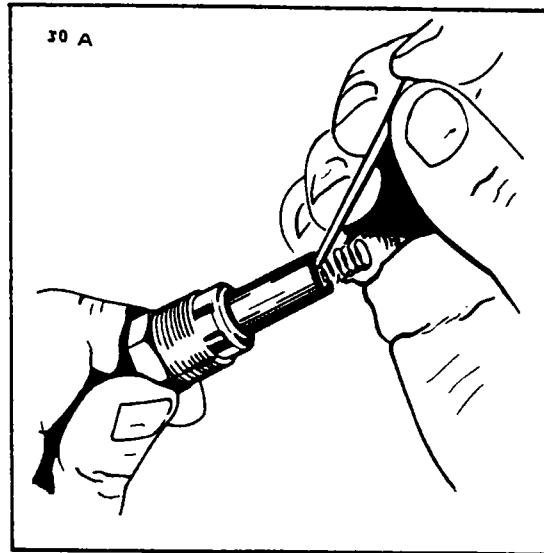

Figure 8-17. Removing Spring From Lead Assembly
1. Using a Scintilla 11-7073 Needle or a mechanical pencil with the lead retracted, hook the end of the contact spring as shown in Figure 8-17.